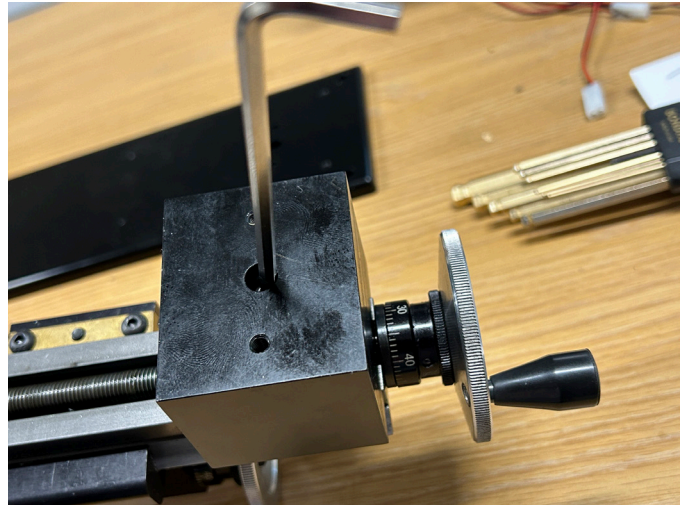

FIGURE 8
7. Attache the tailstock mount to the lathe assembly using the same technique as described for the headstock mount. Tighten the screw just snug so you do not strip out the threads (see Figure 8)